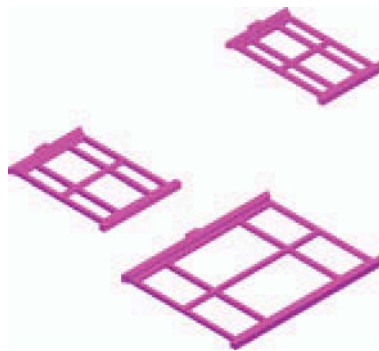

Fig. 16.12 First example – extrusions of the three sizes of windows
6. Make the layer **Windows** current and construct outlines of three of the windows which are of different sizes. Extrude the copings and sills to a height of **1.5** and the other parts to a height of **1**. Form a union of the main outline, the coping and the sill. The window pane extrusions will have to be subtracted from the union. Fig. 16.12 shows the 3D models of the three windows in a **ViewCube/Isometric** view.